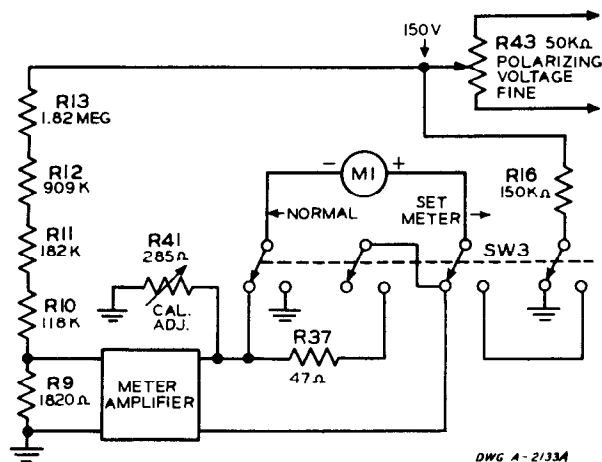

FIGURE 5
4.1 The basic circuit for the meter amplifier calibration is shown in Figure 5. The amplifier is designed so that an input of .09 volts will produce full scale deflection of the meter. In order to maintain accuracy as tubes age or are replaced, it is necessary to check the gain and correct it if needed. This is accomplished in the calibration circuit.